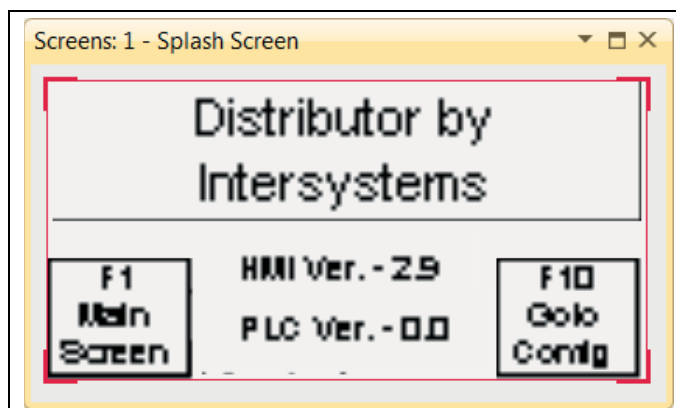

Figure 50
1. Upon powering up, the screen will appear as in Figure 50. Press **F1** for Main Screen.